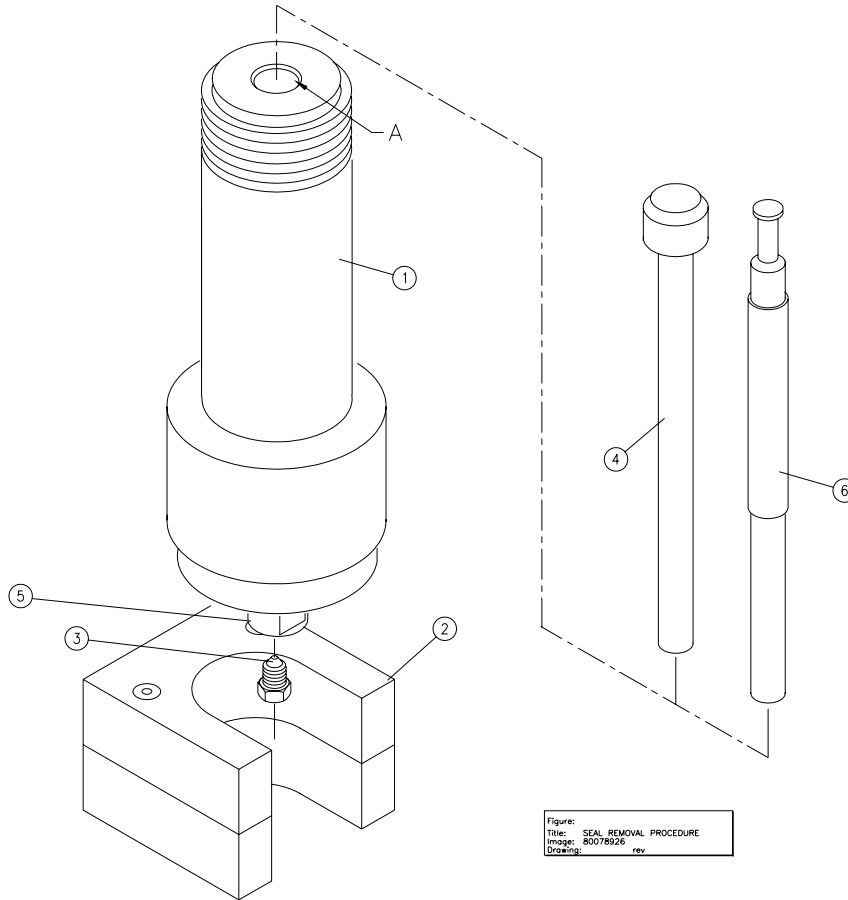

Figure 7-4
3. Stand HP cylinder jug upright with jackbolts resting on platform of wood blocks or stand tool item (2), Figure 7-4.